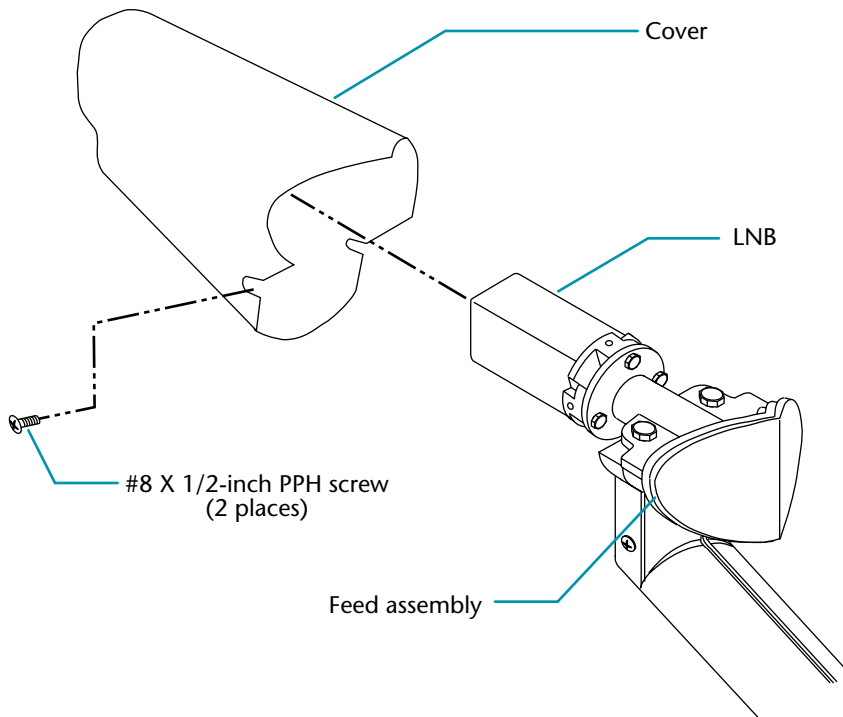

Figure 4-30. Removing cover from feed assembly
1. Using a Phillips screwdriver, remove the two #8 X 1/2-inch PPH screws from the feed assembly cover (see figure 4-30).